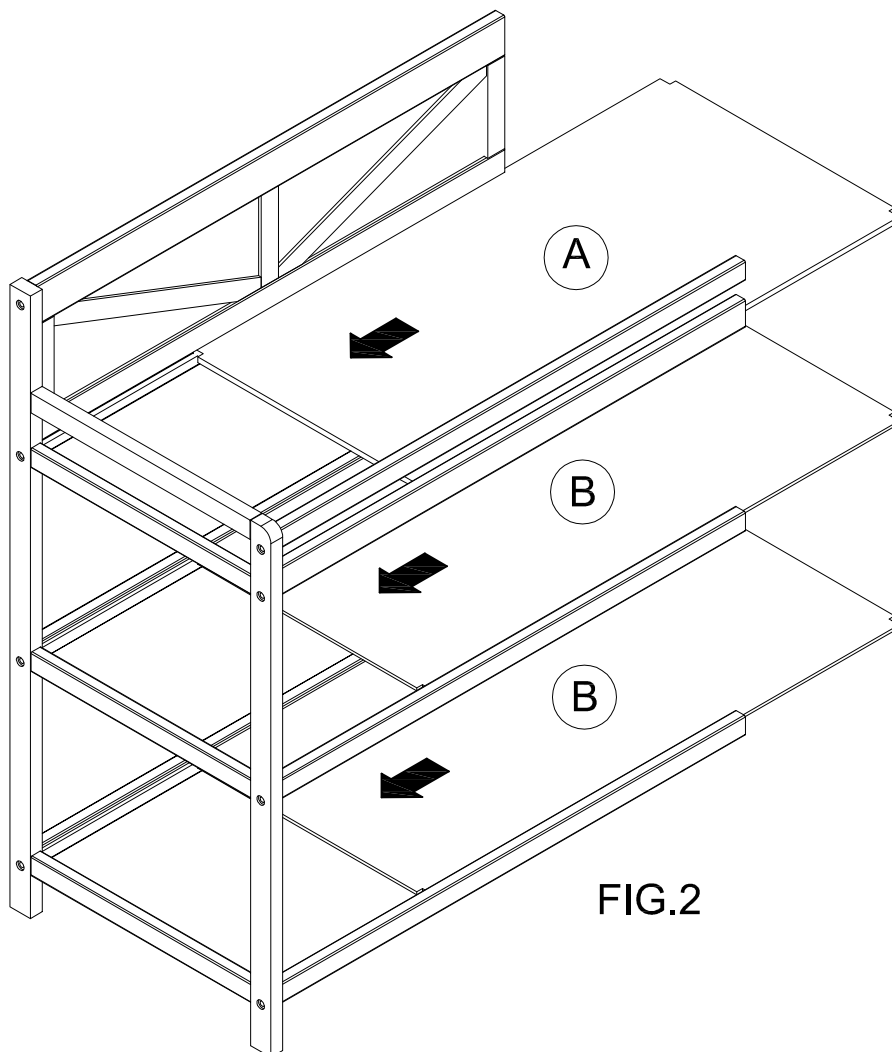

FIG.2
- A.Lay the sideboard on the floor, rails up. Make sure that the thick Shelf (A) is inserted into the Top wide grooved Rails (C). Slide the shelf through the grooves and into the sideboard.
- B. Repeat with the two remaining thin shelves (B), as shown in figure 2.